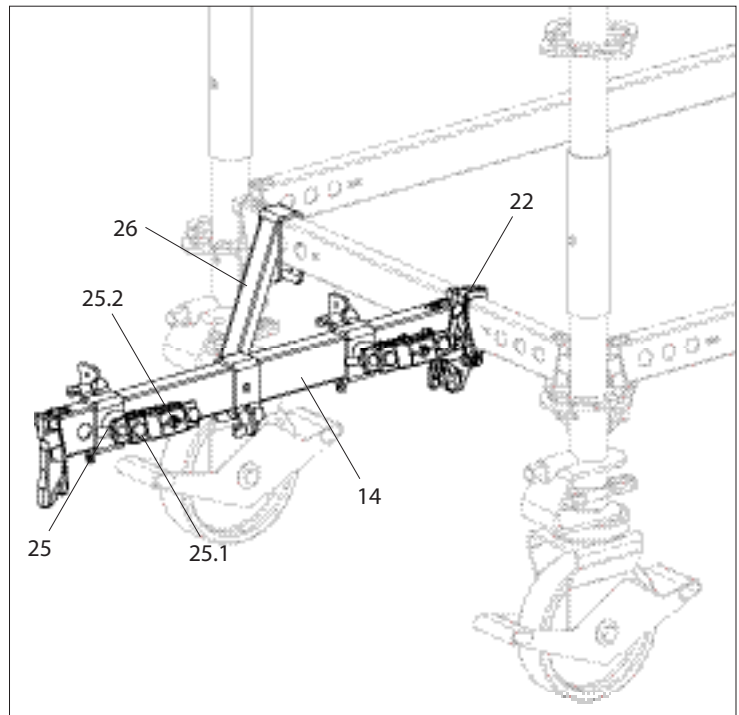

Fig. A4.07
1. Attach Ledger-to-Ledger Coupler UHA (22) to Horizontal Ledger UH-2 75 (14).
2. Brace the horizontal ledger with Ladder Connector Diagonal UAD (26).
3. Fit the Ladder Connector Ledger UAM-S (25) to reflect the distance between the ladder rails. (Fig. A4.07)